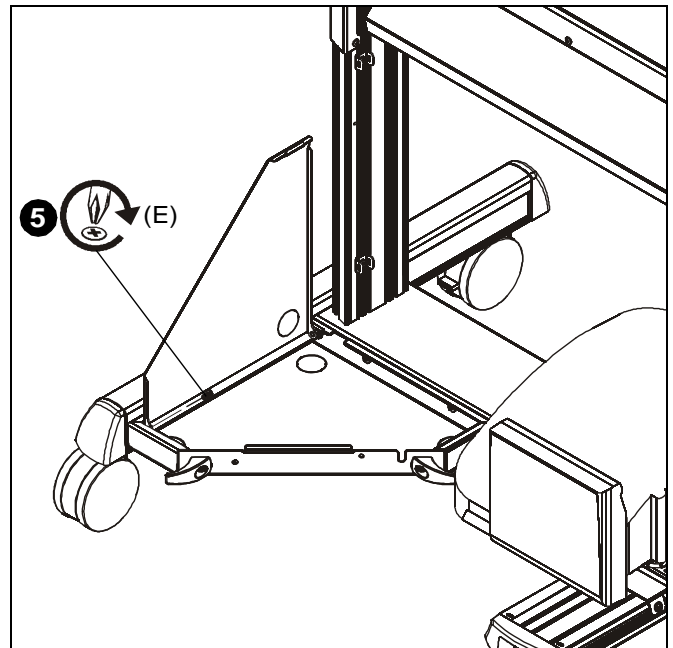

Figure 4
5. Use #10-24 x 3/8" Phillips pan machine screw (E) to secure door (F) to shelf (A). (See Figure 4)